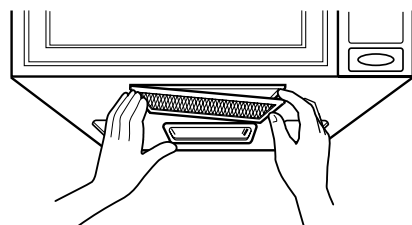

Figure 31
6. Slide the grease filter into the side slot, then push up and toward oven center to lock. See Figure 31.